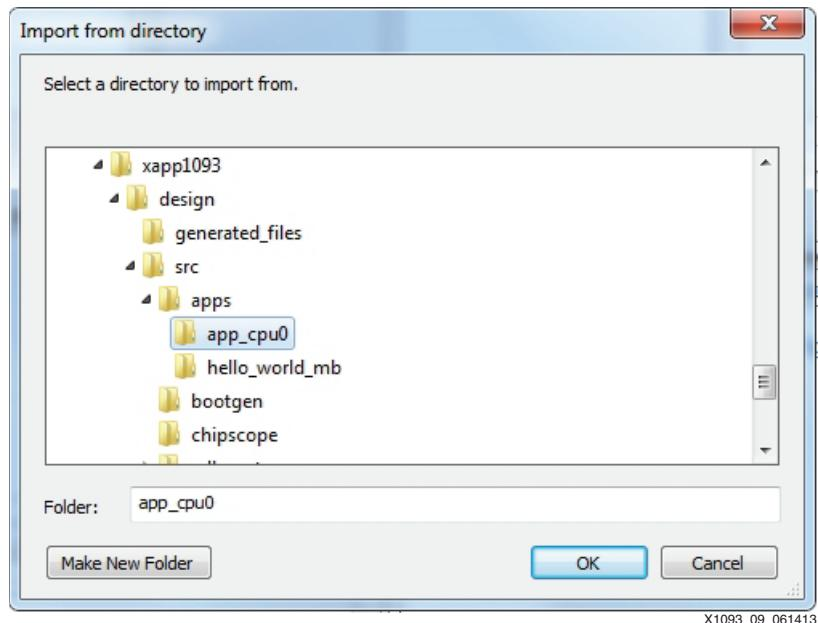

Figure 9: CPU0 Select Source Directory For Import
10. Browse to and select the **design\src\apps\app_cpu0** directory, as shown in Figure 9.